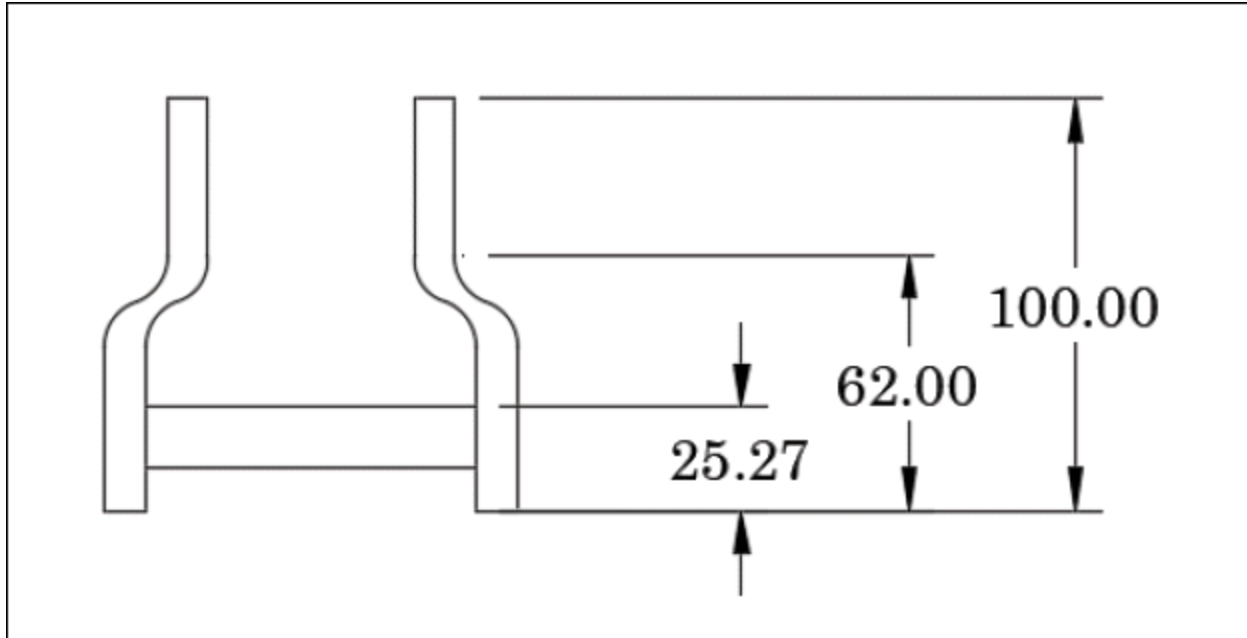

Figure-75. Dimensions arranged
- After specifying desired parameters, click on the **OK** button from the dialog box. The dimensions will be arranged; refer to Figure-75.